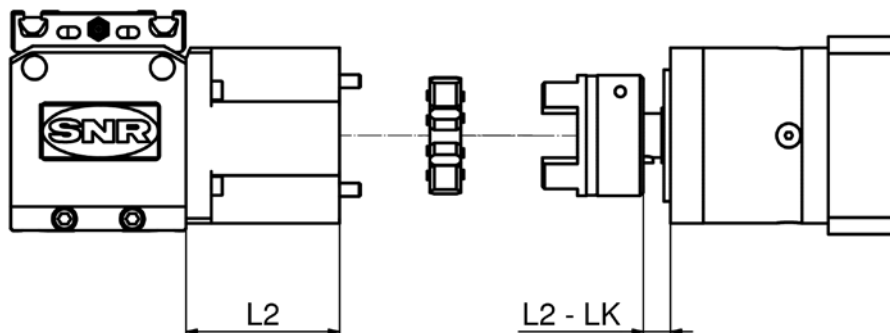

Figure 3.8 ___ Mounting dimension
3. Insert this assembling group with the drive head screwed coupling hub with elastomeric gear rim **6**, and tighten them with the screws **7**. Take in account the dimensions LK and L2 (Figure 3.8) from Table 6.20, Chapter 6.2.3.2.